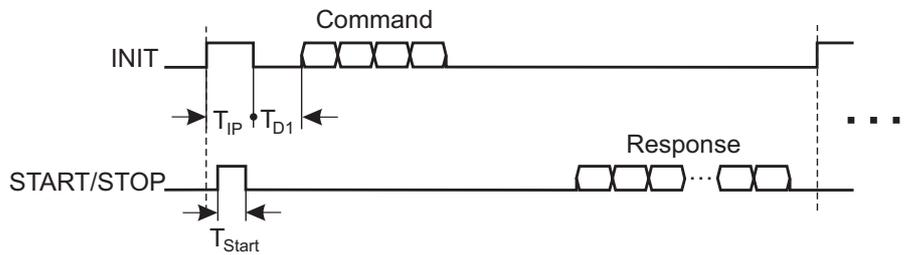

Fig. 7-1: Principle of data transmission with IP data protocol
If the length of the INIT pulse T_{IP} is increased to approx. 15 μs , the transducer switches from DPI measurement mode (→ Fig. 7-1).
- T_{IP} approx. 15 μs operation with IP data protocol (→ Fig. 7-1)